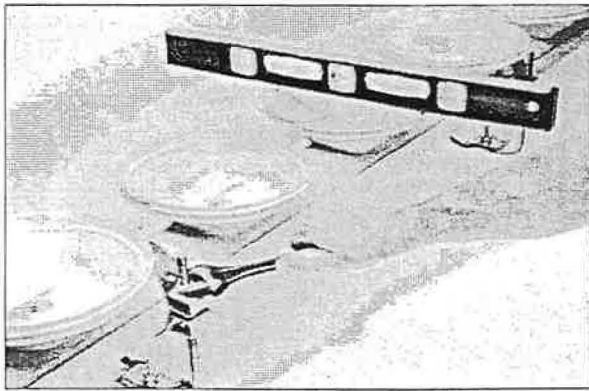

Figure 28
10. Again, starting near the manifold, place a hand level on the top of diffuser holder perpendicular to the centerline of the distributor pipe. See Figure 28.